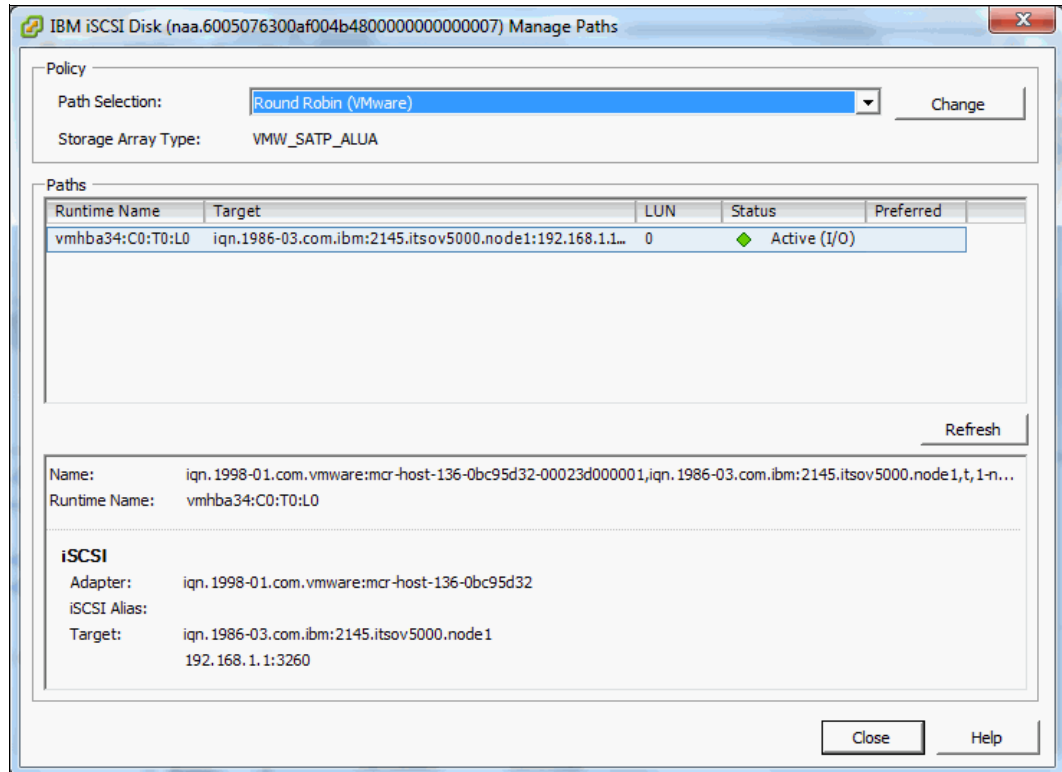

Figure 5-74 Data store multipath settings
3. Click **Manage Paths**. The window shown in Figure 5-74 on page 247 opens. Select either **Most Recently Used**, **Round Robin**, or **Fixed**, and then click **Change** to confirm.